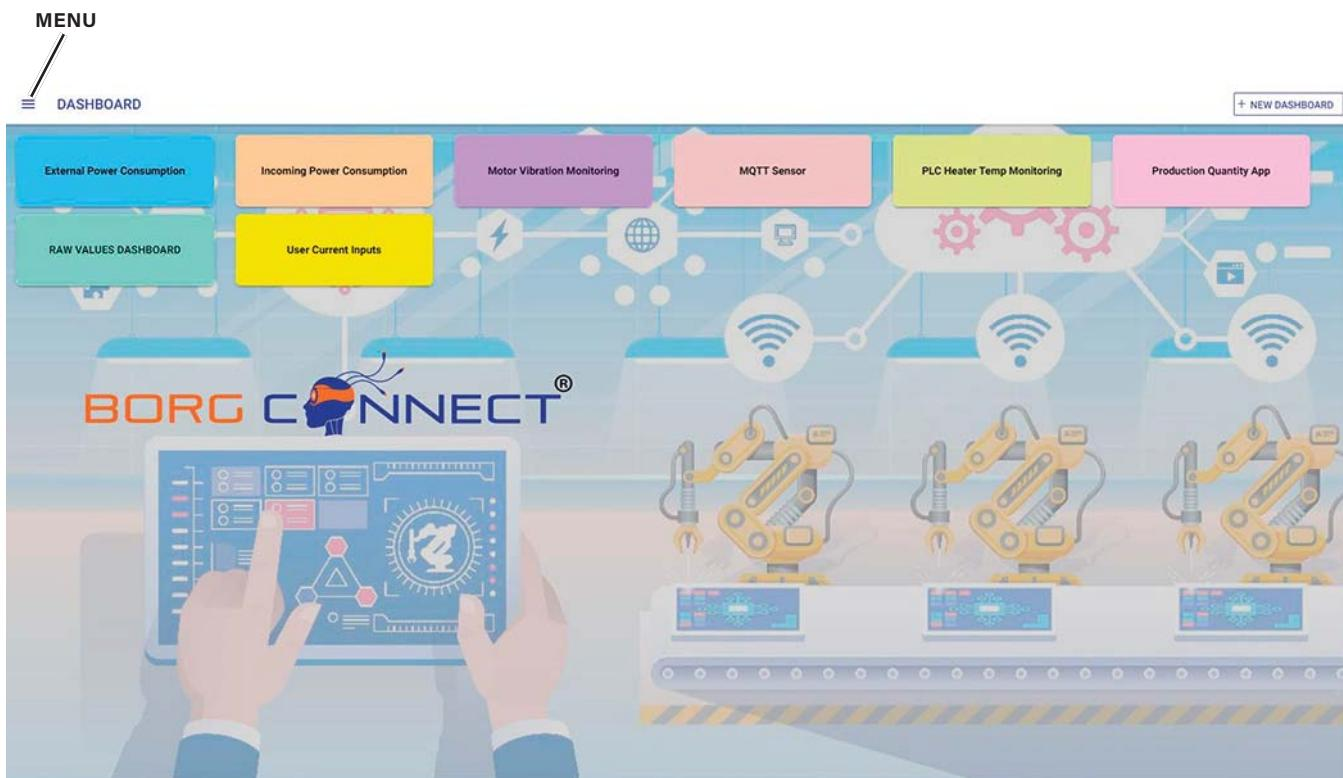

Figure 9-9. BorgConnect Dashboard Main Screen
After logging in, the BorgConnect Dashboard main screen will open similar to figure 9-9.
10. Click **Menu**, which is shown in figure 9-9.